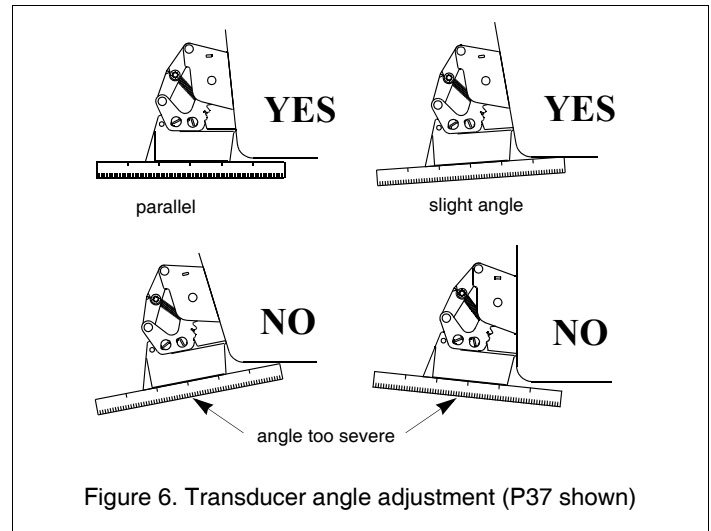
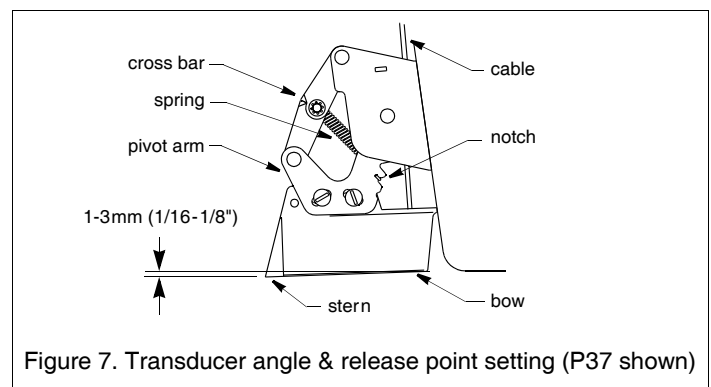

Figure 6. Transducer angle adjustment (P37 shown)
Figure 7. Transducer angle & release point setting (P37 shown)
6. Using a straight edge, adjust the angle of the transducer on the bracket. Sight the underside of the transducer relative to the underside of the hull (see Figure 6). Adjust the sensor on the bracket so it is parallel to the bottom of the hull or at a slight angle. For best results set the trailing edge of the transducer 1-3mm (1/16-1/8") below the leading edge (see Figure 7). Tighten the screws.
Set the springs in the appropriate notches on the pivot arms (see Figure 7).
To facilitate raising the sensor to the “up” (released) position, a line can be attached to the bracket’s crossbar (see Figures 7 and 1). An upward jerk on this line will release the bracket.